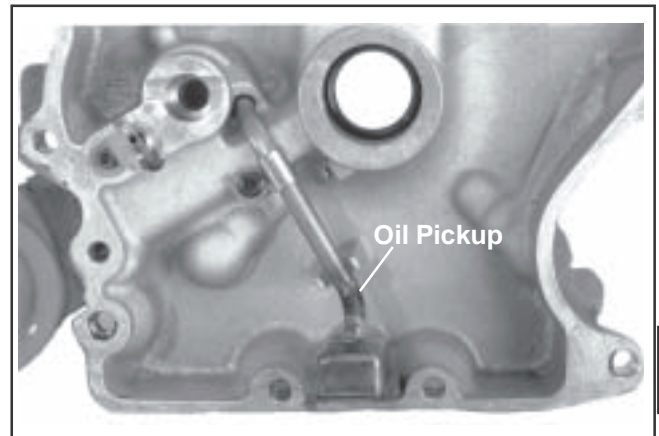

**Figure 9-42. Splitting Notch of Closure Plate/ Crankcase.**
2. Locate the splitting notches in the seam of the closure plate and crankcase. See Figure 9-42. Pry the closure plate from the crankcase using a large flat-blade screwdriver.